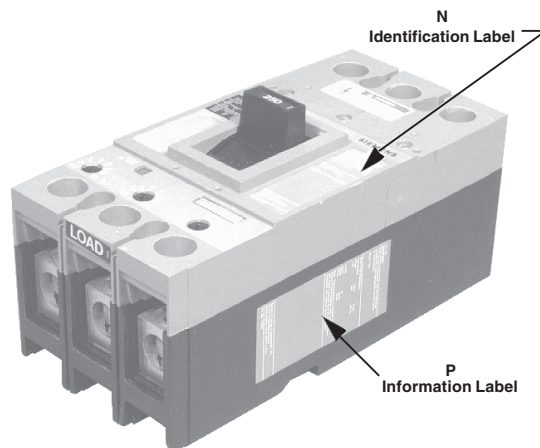

Fig. 5
8. Add two labels provided to circuit breaker. Attach accessory identification label (N, Fig. 5) to appropriate space in label on top of right side of circuit breaker cover. Attach accessory information label (P, Fig. 5) on side of circuit breaker as shown.